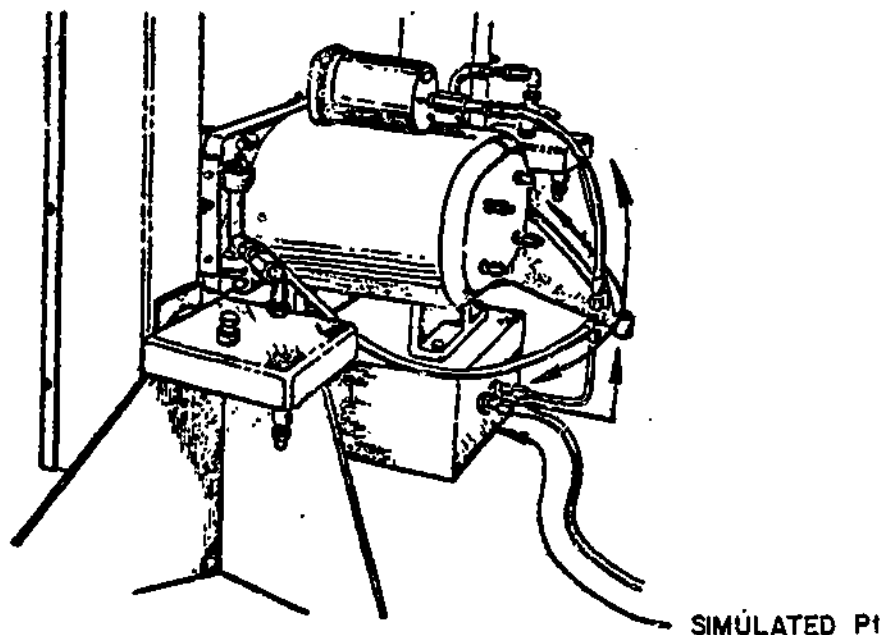

Figure 10.
n. This completes the preliminary set up of the test equipment. Careful observation of the completed set up will show that as you apply pressure (simulated Pt increases) to the airspeed indicator, you are also applying pressure to the water manometer and the mercury manometer, see figure 10.